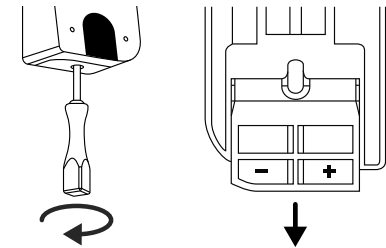

Fig. 3
- 3 Remove the screw from the bottom of the keypad using the Tx8 screwdriver supplied with the keypad and pull the battery compartment downwards (Fig. 3).